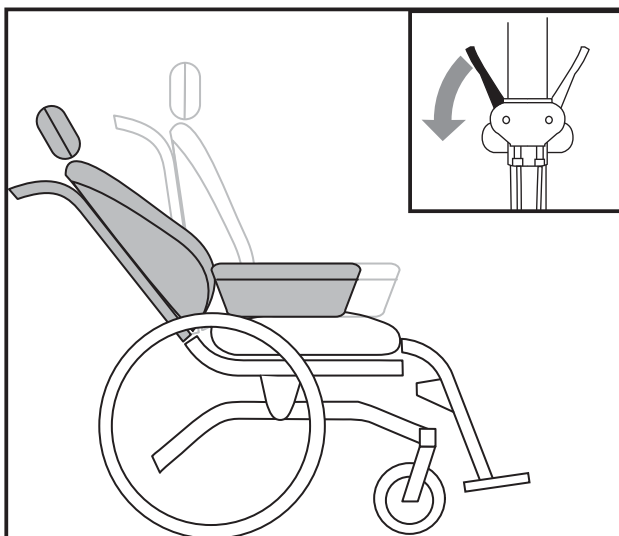

Figure 10
- Adjust the backrest angle with the left adjustment lever (9A) (see Figure 10)